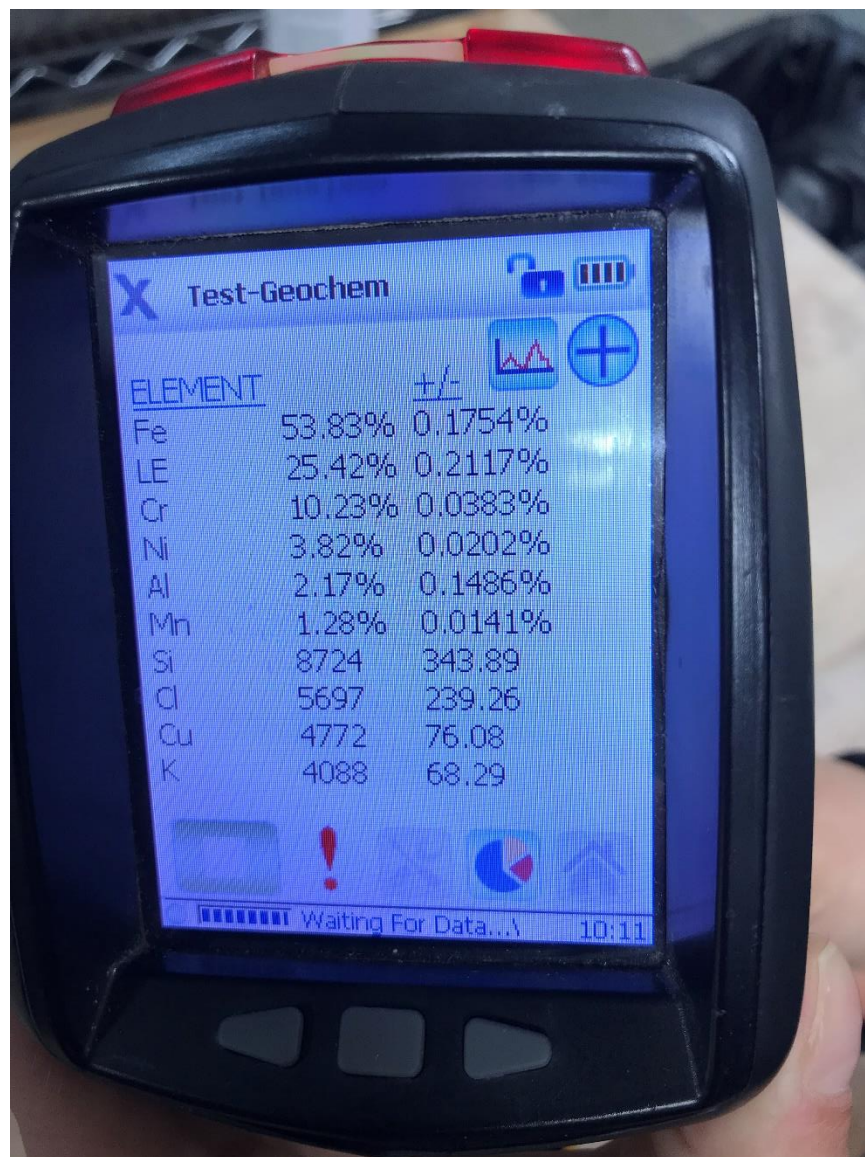

Figure 8
The second stainless standard was alloy 304. Stainless steel 304 is the typical stainless used in most performance exhaust headers, with good oxidation corrosion resistance and containing both chromium (Cr) and nickel (Ni). Figure 8 shows the elemental composition. Notice the lack of sulfur (S) compared to the stainless steel 303. LE readings are low again thanks to that improved scanning hand technique.